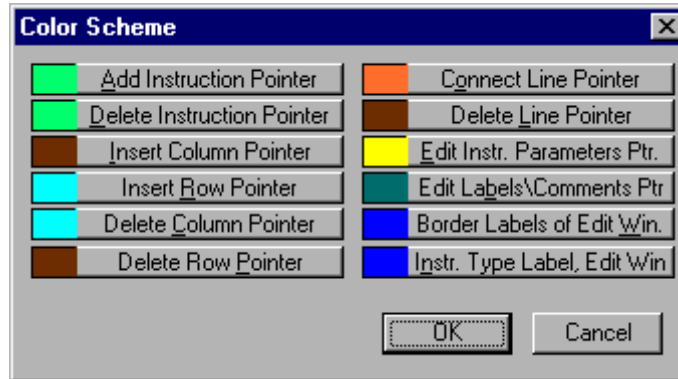

Figure 22-1 [Color] Dialog Box
1. Select [Options] – [Color Scheme]. The dialog box shown in Figure 22-1 appears.